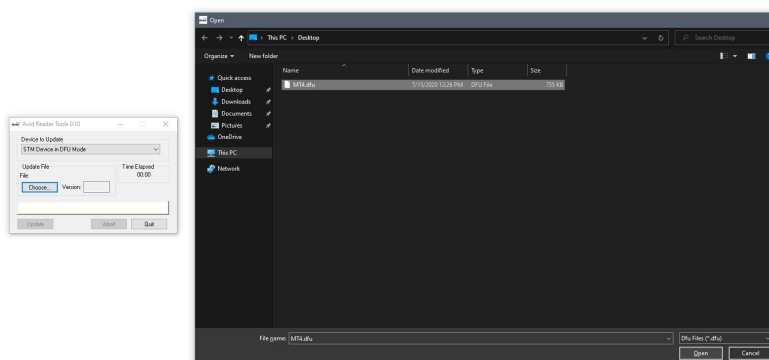

Figure 23: *Selecting firmware upgrade DFU file.*
3. Use the "Choose..." button to locate the update file with the explore window shown in Figure 23. The MiniTracker 4™ update file has extension ".dfu". With the update file selected, use the "Open" button to load the update file.